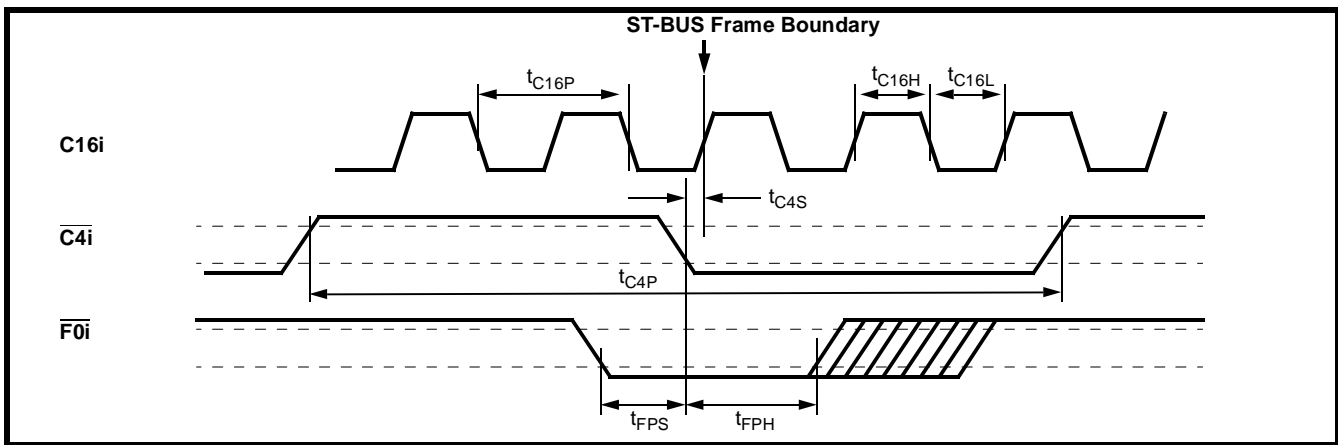

Figure 13 - ST-BUS Frame Pulse and Clock Timing
The main timing source generates a 16.384MHz clock phase locked to a 4.096MHz clock. The framing signal input to PAC#1 at  $\overline{F0i}$  should meet the requirements specified in Figure 13 of this data sheet. In some applications where a master 16.384 MHz oscillator is used for system timing, the C4i and  $\overline{F0i}$  clocks could be derived directly from it. In applications where a 4.096 MHz clock signal is available, the 16.384 MHz clock can be generated using a phase-lock loop.
**AC Electrical Characteristics† - Input Frame Pulse and Clock Timing (See Figure 13) -**